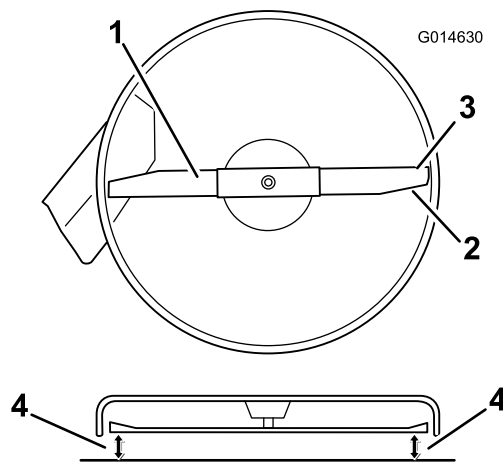

Figure 50
4. Carefully rotate the blade(s) so that they are all side to side (Figure 50).
5. Measure between the outside cutting edges and the flat surface (Figure 50). If both measurements are not